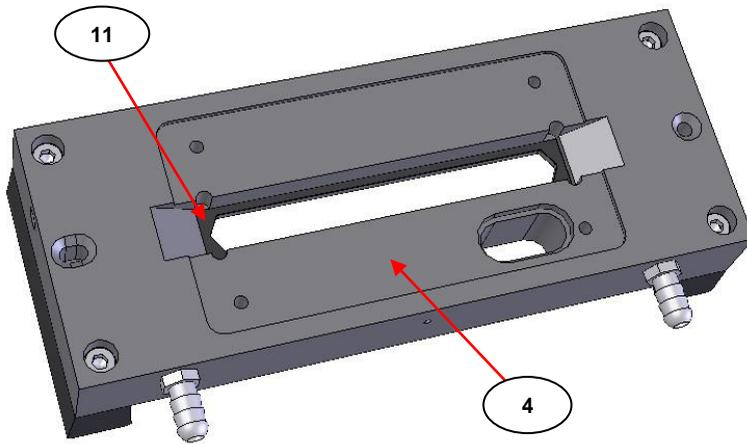

Fig 8. Kalrez Gasket Seal in the Gateway™ ATR Water Heated Trough Top Plate
When the ATR crystal (7) has been removed from the Top Plate assembly, access can be gained to the Kalrez gasket seal (11) for cleaning or replacement with new if necessary. (See Fig 8.)
- 1) Having cleaned all of the parts sufficiently and whether installing a new crystal (7) and/or new Kalrez gasket (11), re-assemble the Gateway™ ATR Water Heated Trough Top Plate first by aligning correctly and centrally the Kalrez gasket seal (11) into the underside channel recess of the main body plate (4). (See as **Fig 8.**)
- 2) Insert the ATR crystal (7) into the recess channel of the main body plate (4) with the longer top surface of the crystal pressing against